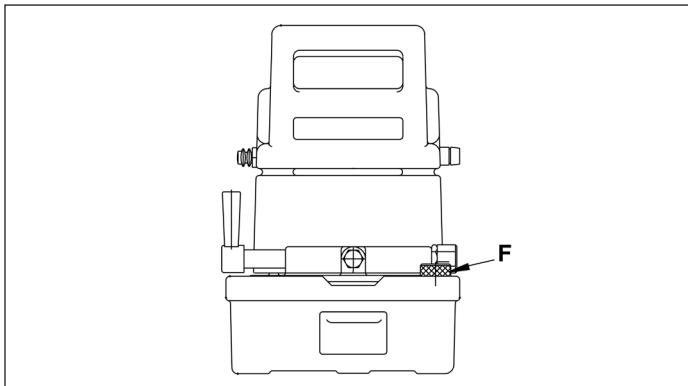

Figure 11
7.2 Changing the Oil (Figure 11)